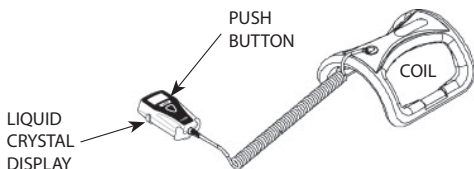

Figure 3. OL1000 SC
3. To start a treatment, press the “push button” next to the liquid crystal display (LCD) screen (see Figure 3), **hold it down until it beeps, and then let go.**